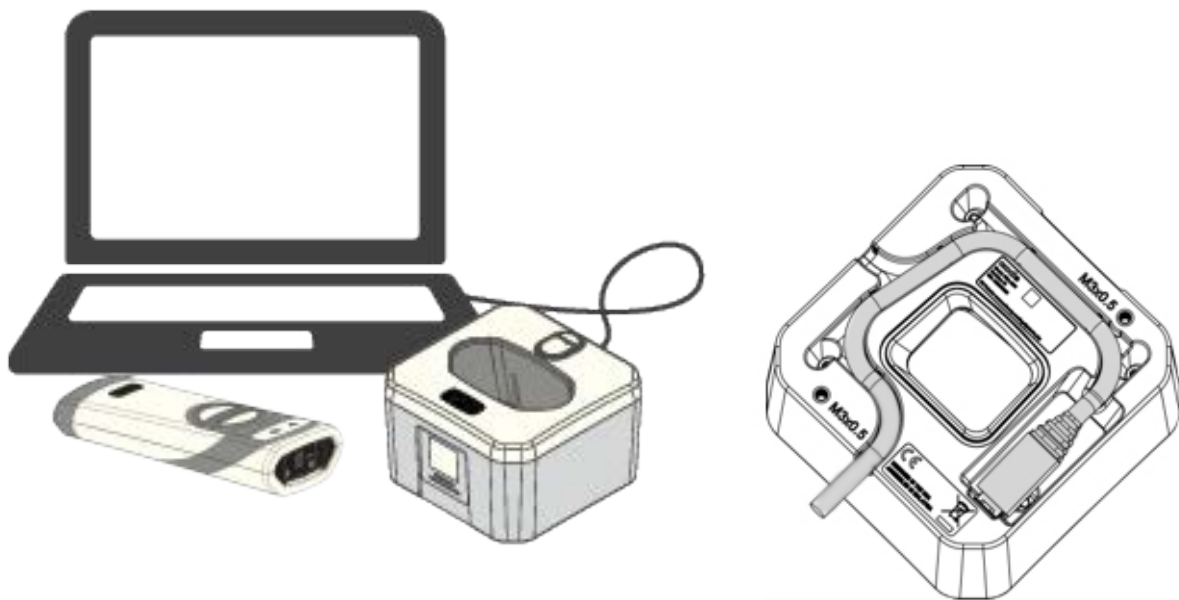

Figure 7 Connect Charging Station
5.8.1. Insert the micro USB connector of the cable to the micro USB port on the bottom of the charging station (Figure 7)